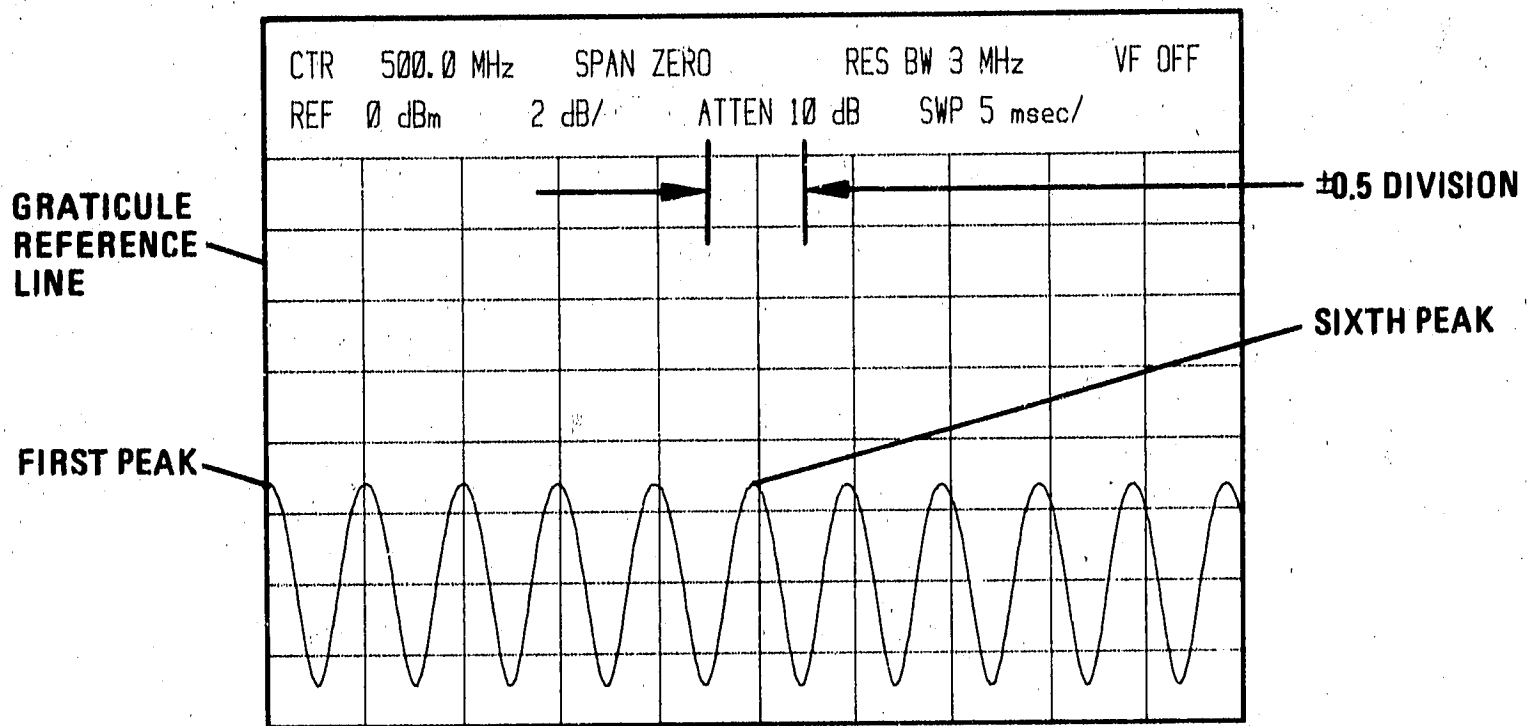

Figure 4-23. Sweep Time Accuracy, 5 mSEC/DIV
10. Use Table 4-20 to check sweep time accuracy for sweep times of  $5 \mu\text{SEC}$  through .1 SEC. For these sweep times, 10 sweeps will be displayed. Adjust TRIGGER LEVEL of spectrum analyzer to place a peak of sine wave on graticule reference line. Sixth peak from reference should be within  $\pm 0.5$  divisions of center graticule line. (See Figure 4-23 for an example of this display.)